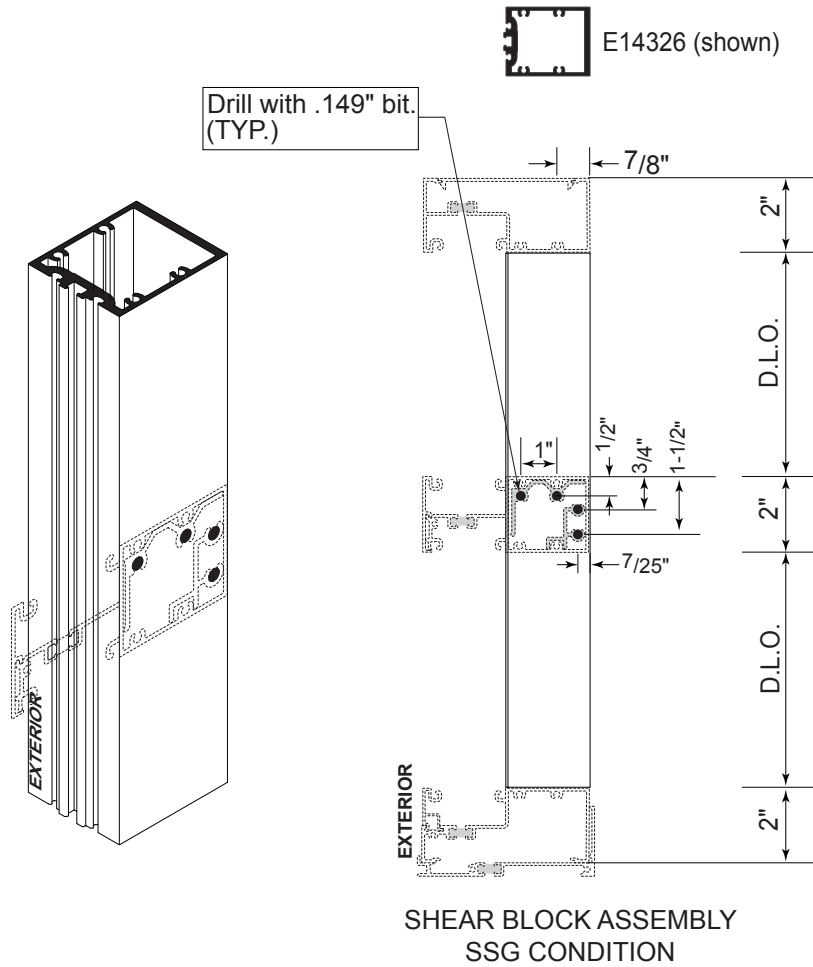

Fig.49.1
A. Drill frame assembly holes in verticals & jambs with drill fixture. See **Fig. 49.1**